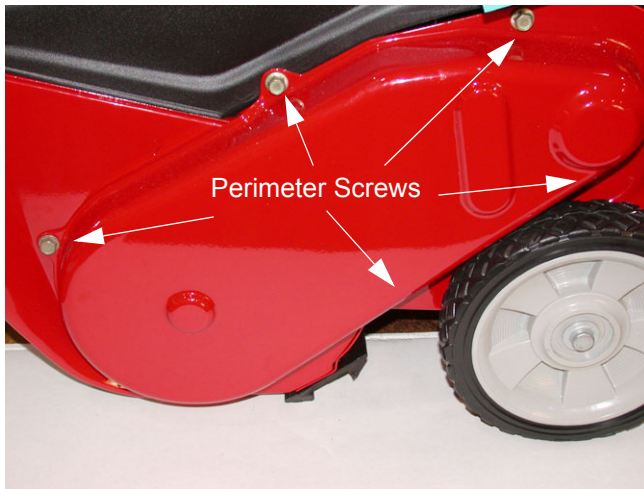

Figure 8
8.1. Remove the five (5) screws on the perimeter of the belt cover using a 3/8" socket with short extension and ratchet. See Figure 8.
8.2. With the cover removed inspect for wear on the belt and movement of the idler bracket. See Figure 8.